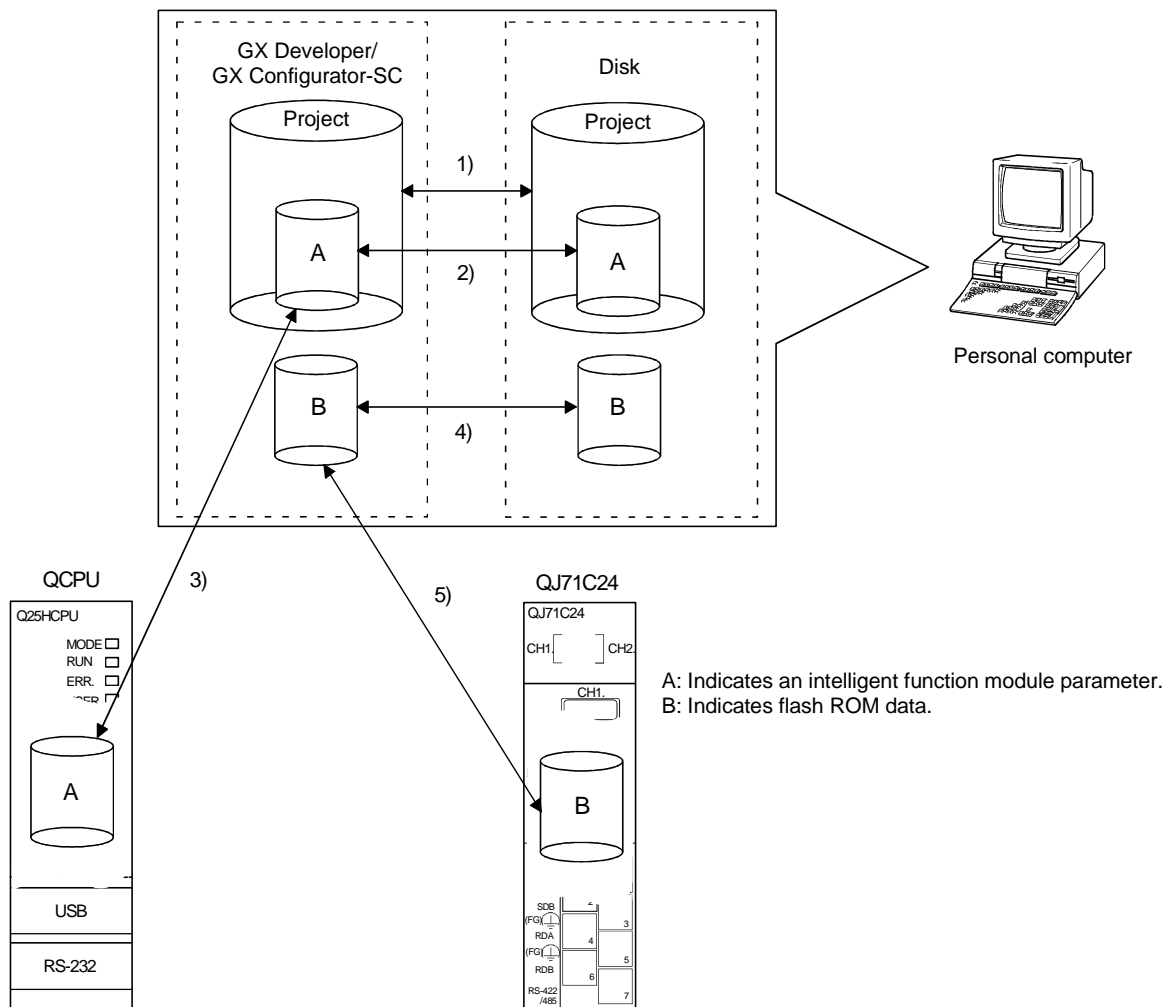

Figure 8.1 Correlation chart for data created by the utility package
The data and files shown below that are created with utility package are also used by GX Developer operation. Figure 8.1 shows an operation used to create data with utility package.
- (b) Steps 1) to 3) shown in Figure 8.1 are performed using the following operations.
- (b) Operations 4) and 5) shown in Figure 8.1 are performed as follows: